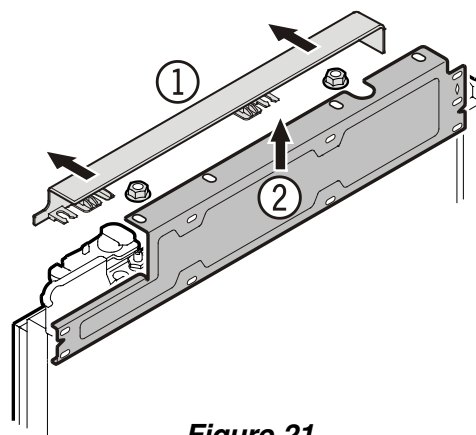

Figure 21
Before mounting the door panels - Figure 21
- Figure 21